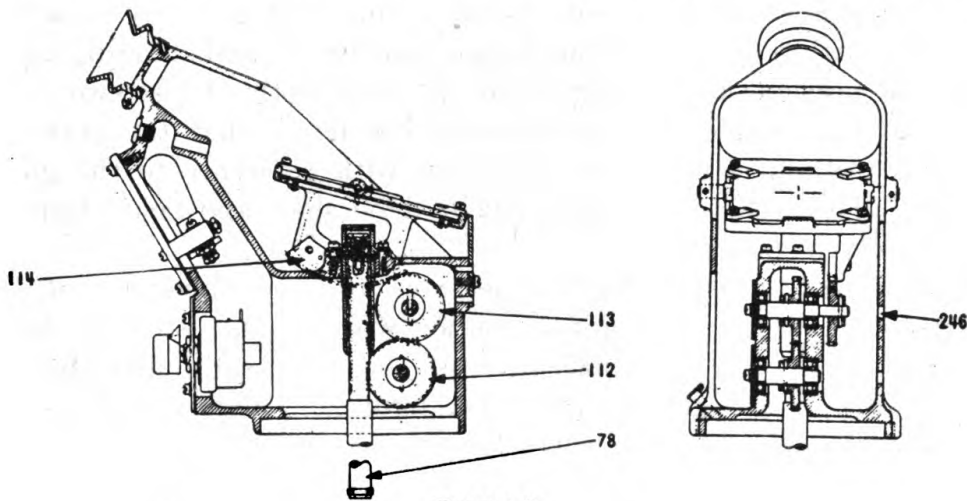

FIGURE 6.
a. Referring to figure 6, and to the actual mechanisms, reassemble the unit in such a manner that when the scribe marks on the mirror gear sector 114 and the idler gear 113 are in line as observed through aperture 246, the mirror is at a position 15° below horizontal. This may also be accomplished with level-protractor or gunner's quadrant, or by use of pointer provided* on the open sight bracket. This pointer indicates accurately the 15° position of the mirror by coincidence between the pointer and the finished top surface of the mirror mounting bracket.